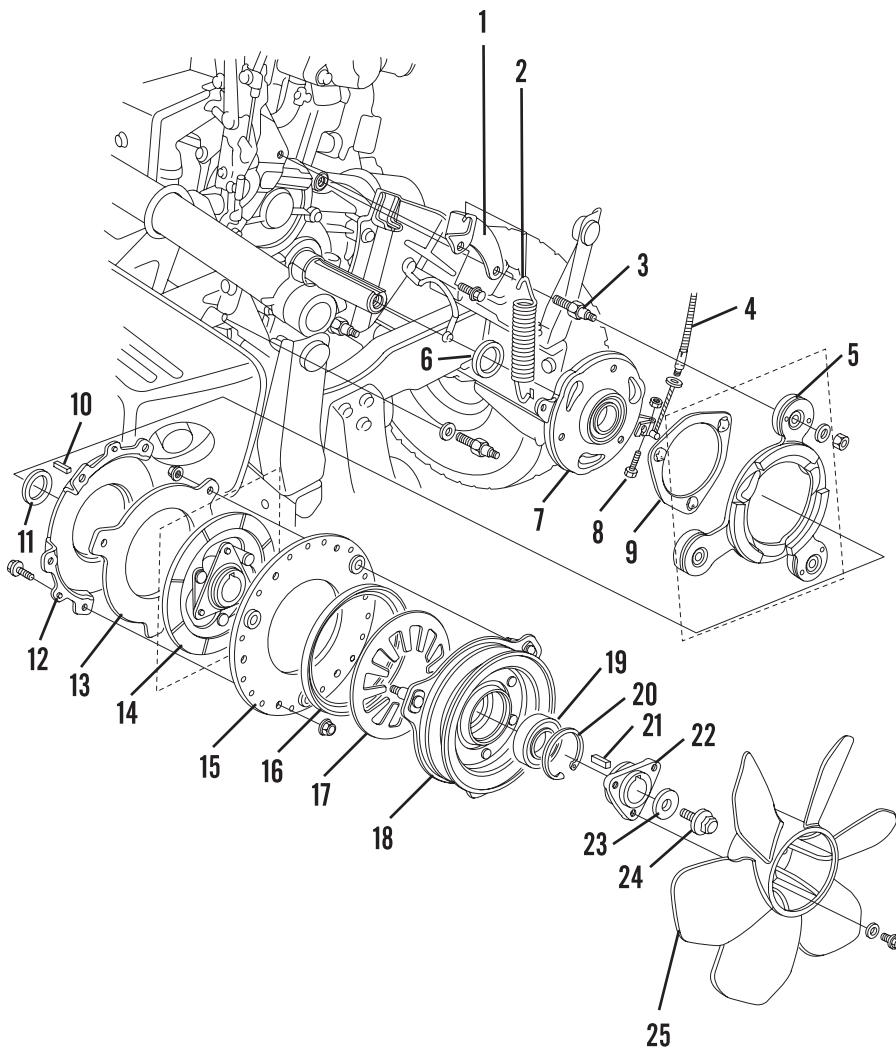
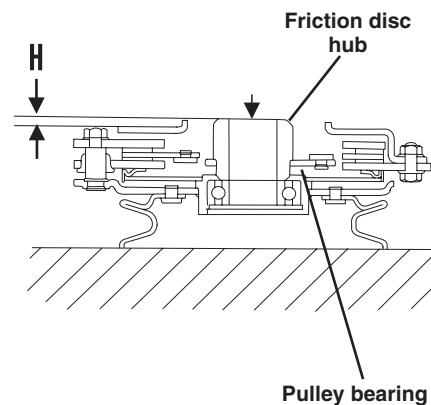

Fig. HN1-26—Exploded view of PTO clutch.
Fig. HN1-27—Measure clutch disc hub height (H) to determine adjusting shim thickness. Refer to text.
Before removing the PTO clutch, disconnect the negative battery cable. Remove the hood, radiator, fan and mower drive belt. Disconnect the PTO clutch cable (4—Fig. HN1-26).
Detach the clutch return spring (2—Fig. HN1-26). Unscrew the retaining screw (24), and remove the fan hub (22) and clutch assembly from the en-
To determine the correct shim thickness (11—Fig. HN1-26), assemble the components (12-20). Place the assembly on a bench with the pulley (18) down. Push down on the friction disc hub so it contacts the pulley bearing (Fig. HN1-27). Measure the height (H) of the friction disc hub above the back face of the clutch bracket. Install shim thickness based on hub height above the bracket face as specified in the following table:
Adjust the PTO control cable as described in the previous section. With the engine stopped, move the PTO control lever to the engaged position. Measure the gap between the brake pad on the brake disc (5—Fig. HN1-26) and the back face of the bracket (12). The gap should be 1.5-2.3 mm (0.060-0.090 in.). If the gap is not correct, repeat adjustments.